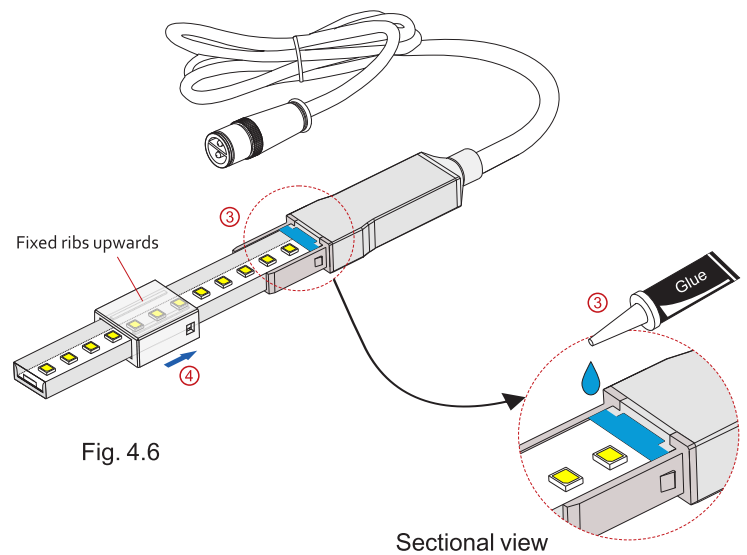

Fig. 4.6
- Fig. 4.6 — Inserting the adhesive silicon glue, and make IP65 Waterproof.